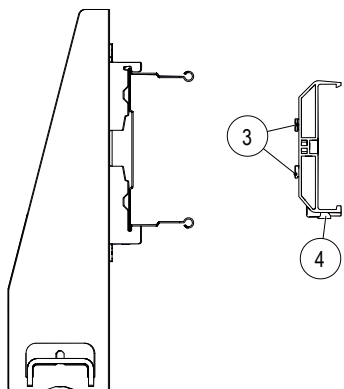

Fig. 53: Locking pin (4) and pin (3) of hanger clamp 0812
- The distances of the hanger clamps are selected as in Fig. 53